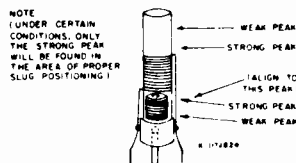

FIGURE 5. DISCRIMINATOR COIL
- a. L302 audio discriminator coil (L302 will tune thru 4 peaks. For proper setting refer to Figure 5. This coil must be peaked for maximum audio with minimum buzz.)